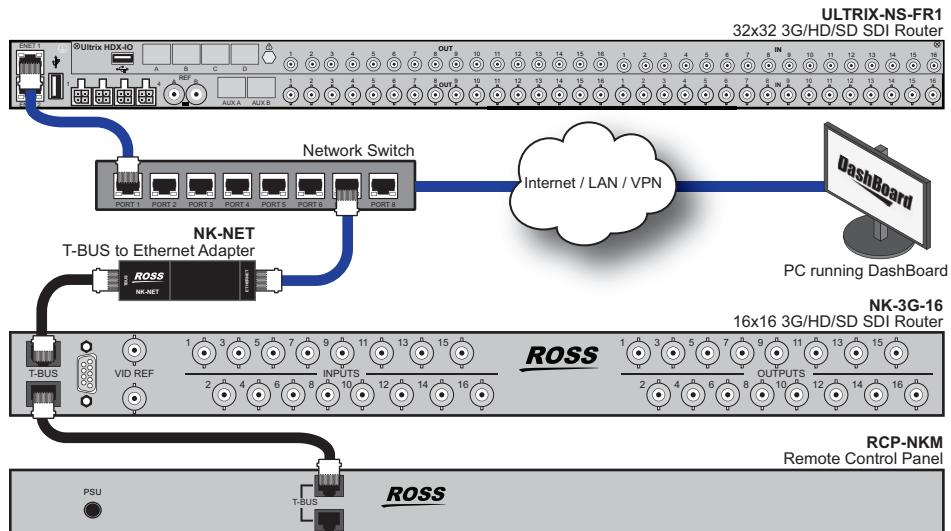

Figure 47 Connection Example with an NK-NET
- Connect the NK device to the same Ethernet network as your Ultrix router using an NK-NET or an NK-IPS, and then set up communications via the Ultricore interface in DashBoard. (**Figure 47**)
Figure 47 provides an example of a system with an Ultrix and several Ross NK devices over T-Bus.